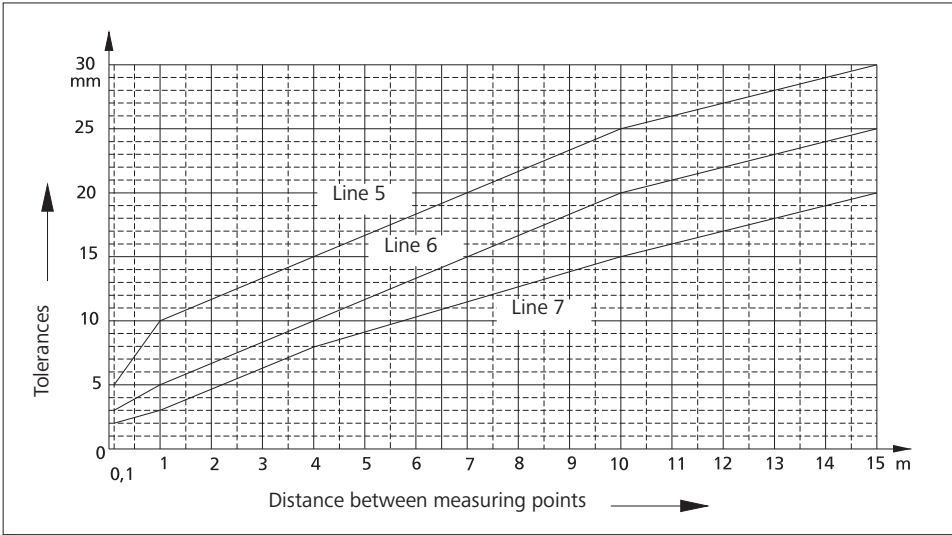

Fig. 23.2
* Intermediate values can be found in Fig. 23.2.